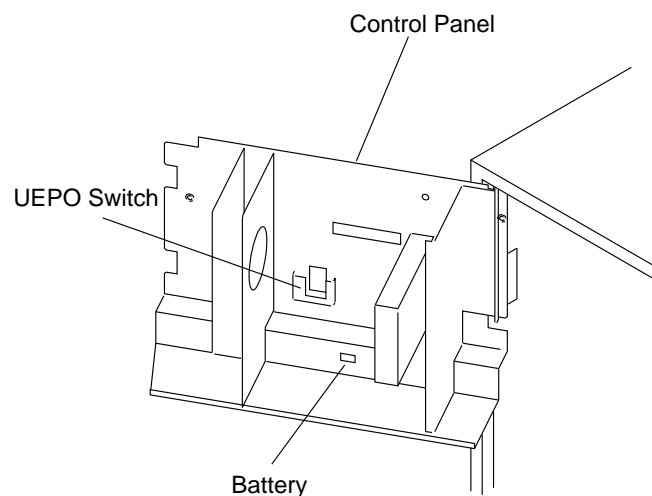

Figure 3-4. Control Panel (Rear)
- Step 4. \_\_\_\_ Open the control panel. Locate the unit emergency power OFF (UEPO) switch at the rear of the control panel (see Figure 3-4).
Step 5. \_\_\_\_ At the bottom rear of the control panel, unwrap the battery connector and plug it in appropriately (see Figure 3-4 on page 3-6 for location).